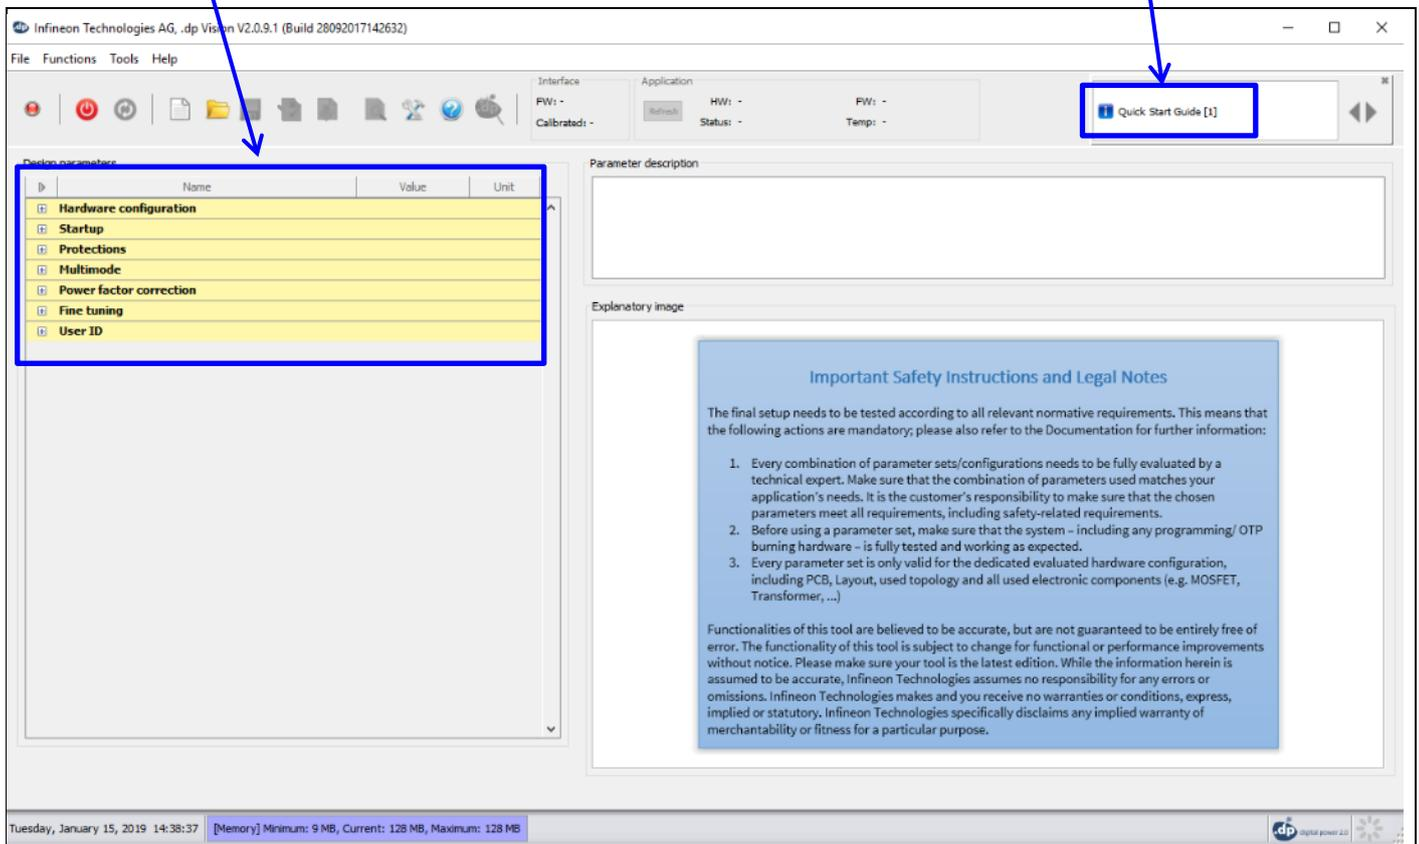

Figure 7 Parameters file loaded in .dp Vision
Load the XDPL8210 parameters configuration file (\*.csv) in the folder (HOME) \Infineon Technologies AG\ .dp vision\Parameters as shown in Figure 7. Please select the corresponding file (e.g., for a 40 W board choose the “XDPL8210\_FWvx.x.x\_40W” file).
After loading the parameters .csv file, a list of XDPL8210 configurable parameters will show (see the box on the left in Figure 7). These values can be modified by users and will turn blue.
**Note:** The message bar shown in Figure 7 provides detailed information. For further information, please refer to the “dpvision User manual”.
1	Open configuration file and change parameter value (see example in <a href="#">Figure 7</a> ).
1	Load configuration file (see example in <a href="#">Figure 7</a> ).